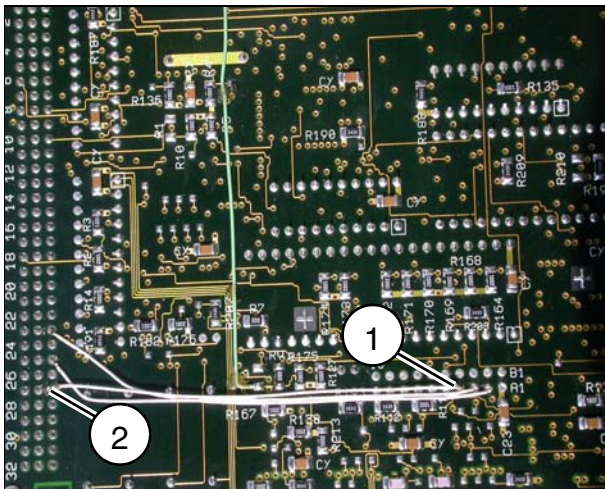

Fig. 5
- On board D3 solder interconnecting wire 0.25 from X11 a4 (1/Fig. 5) to X2 c27 (2/Fig. 5).